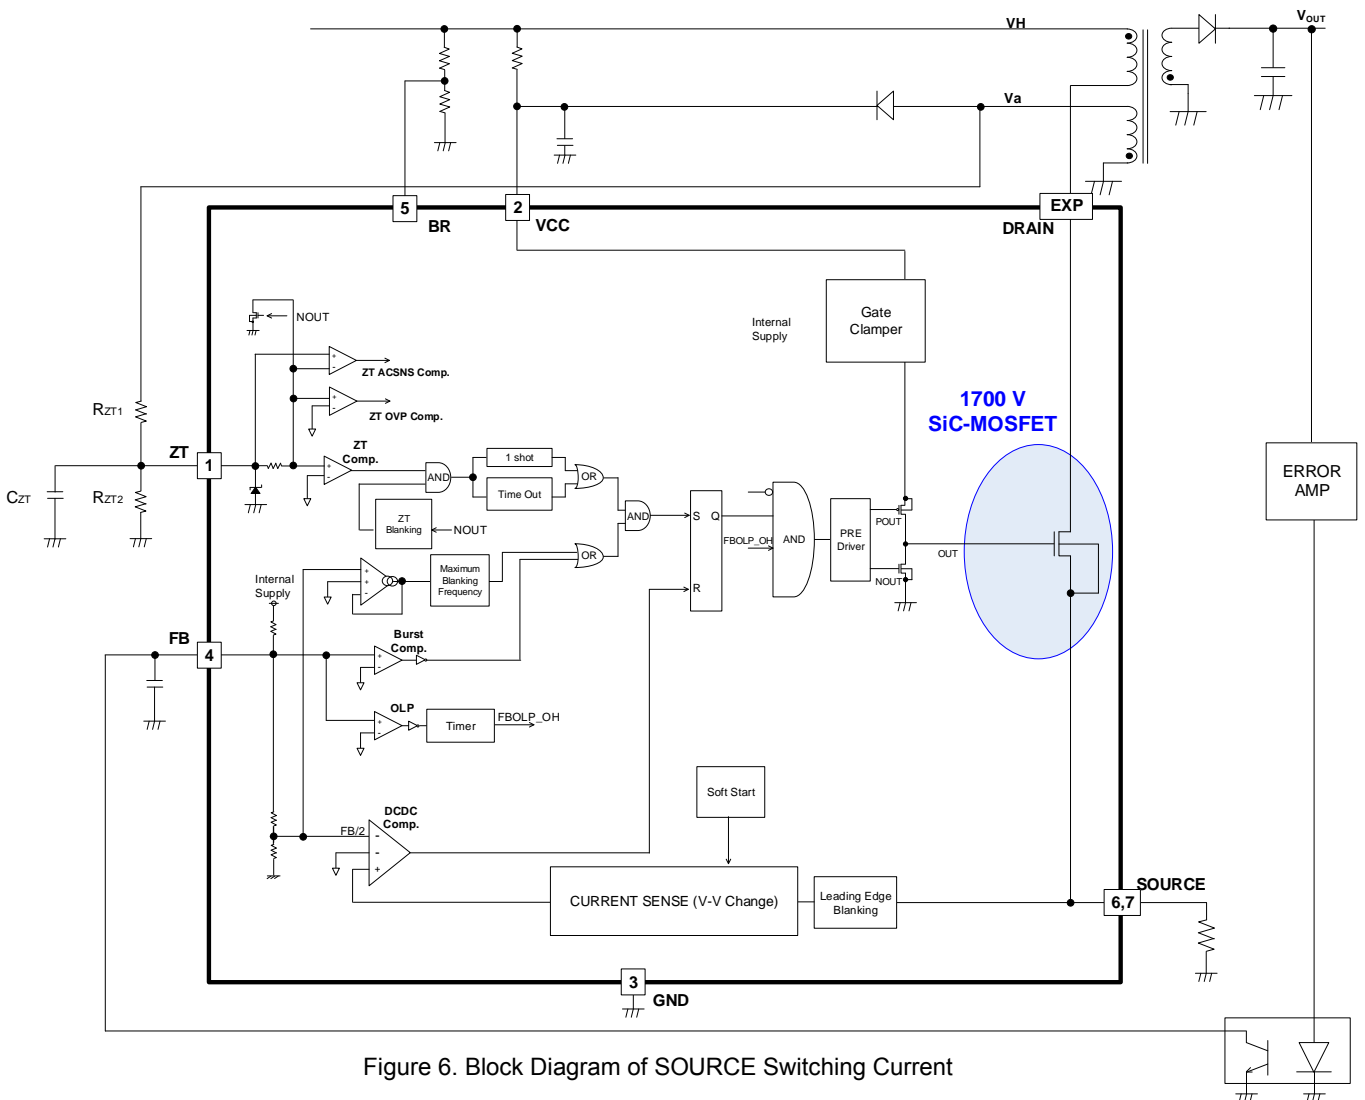
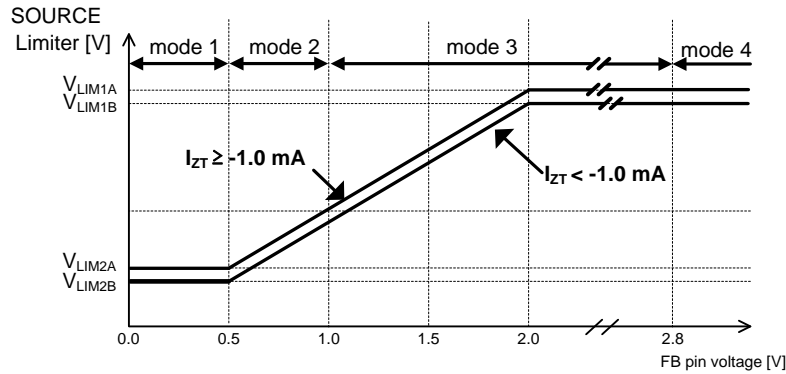
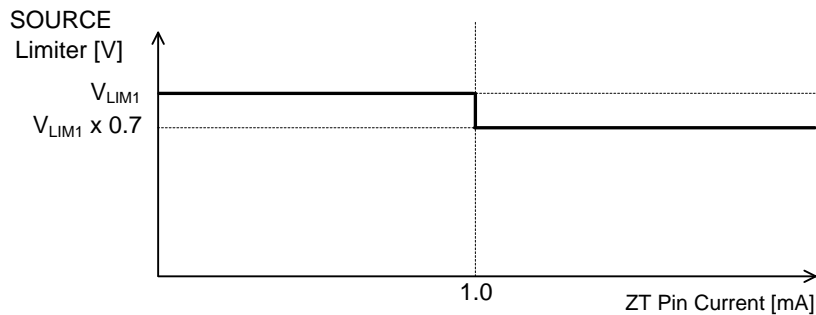
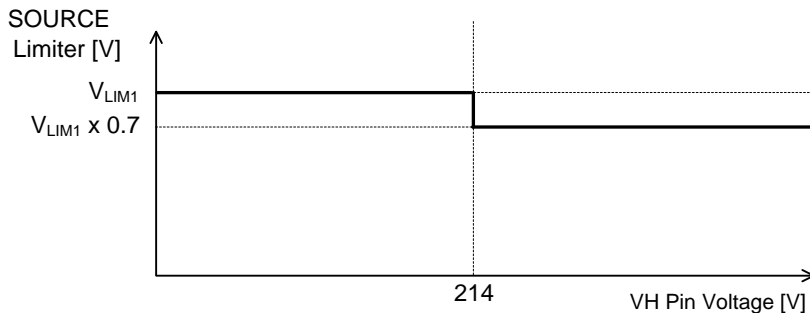

Figure 6. Block Diagram of SOURCE Switching Current
Figure 7. SOURCE Switching: SOURCE Limiter vs FB Pin Voltage
Figure 8. SOURCE Switching: SOURCE Limiter vs ZT Pin Current
Figure 9. Example of SOURCE Switching: SOURCE Limiter vs V_H Pin Voltage
Detection and switch are performed by monitoring the ZT inflow current. When the MOSFET is turned ON, Va becomes a negative voltage dependent on the input voltage (VH). The ZT pin is clamped to nearly 0 V in the IC. The formula used to calculate this is shown below. A block diagram is shown in Figure 6. Also, graphs are shown in Figure 7, Figure 8 and Figure 9.